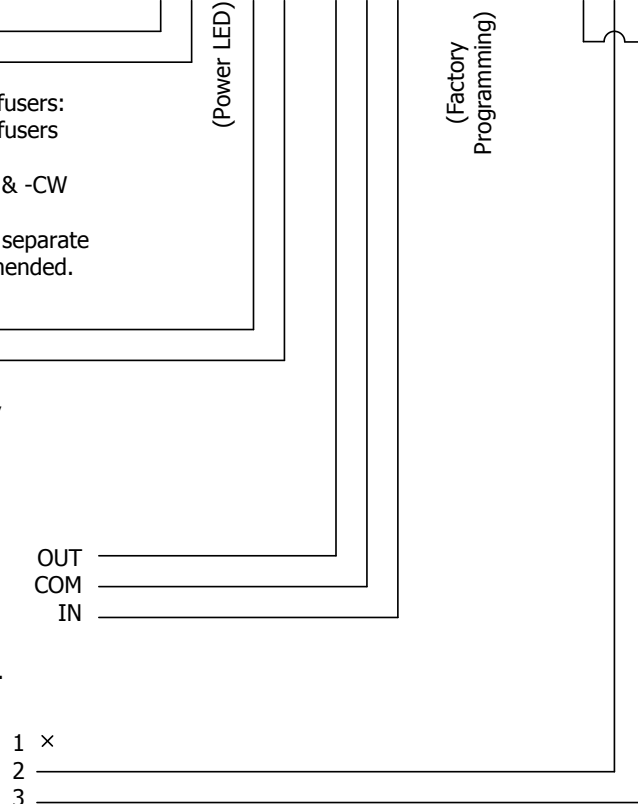

Fig. 10 – Wiring Diagram
Connect three wires from Acu-Zone terminals 1, 2, and 3 (see the Acu-Zone heater wiring instructions) to the terminals (AUX HTR CTRL) on the auxiliary heat board; 1 to HOT, 2 to RTN, and 3 to SW (see Fig. 10 Wiring Diagram).
2. Check the incoming power at the diffuser board. Power across terminals 24VAC POWER (see Fig. 10 Wiring Diagram) should be 24VAC ±2VAC. If the power is out of tolerance:
3. If the green Power LED is not lit, then check the 500mA Fuse (see Fig. 10 Wiring Diagram).
12. Remove wires from terminals INTERNAL HEATER (see Fig. 10 Wiring Diagram) on the diffuser board. Measure resistance across the wires connected to the heaters. Resistance should be: